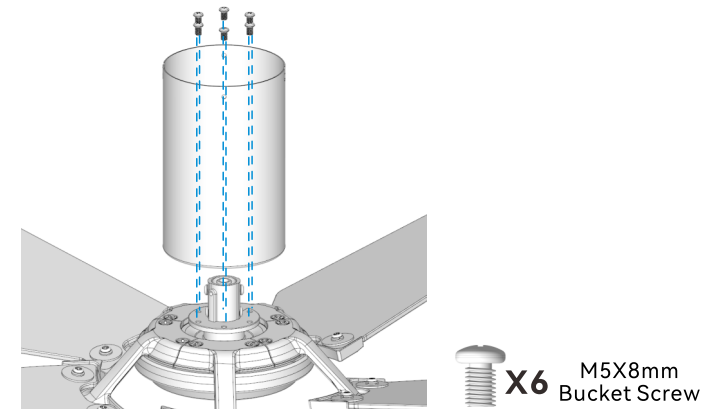

Fig. 3.2
3.2 Find the 6 bucket screws in the hardware pack and use them to secure the fan bucket to the motor housing. Ensure that all screws are tightened firmly, as depicted in Fig. 3.2.